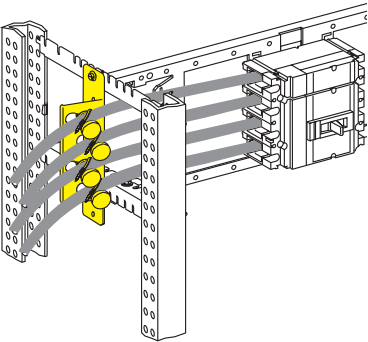

Fig. 1
- directly on the mounting plate cross-members (fig. 1 and 2)